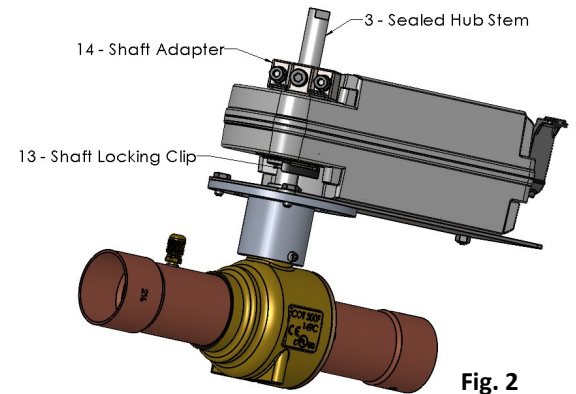

Fig. 2
2. Determine whether the fail-safe (loss of power) position required for the valve is open or closed. The side of the Actuator (10) facing upward will determine the rotation direction of the actuator and therefore whether the valve is opened or closed upon loss of power. This is changed by removing the Shaft Locking Clip (13)(Fig. 2), reversing the Shaft Adapter (14) and replacing the Clip. On the label near the shaft adapter is a diagram showing direction of rotation for powered operation, the number "1", and spring return rotation direction, the number "0" (power loss). For valve closed upon power loss, position the actuator arm fully counter clockwise, making sure the valve is fully closed. For valve open upon power loss, position the actuator arm fully clockwise, making sure the valve is fully open. The valve and actuator arm MUST be matched for proper function.